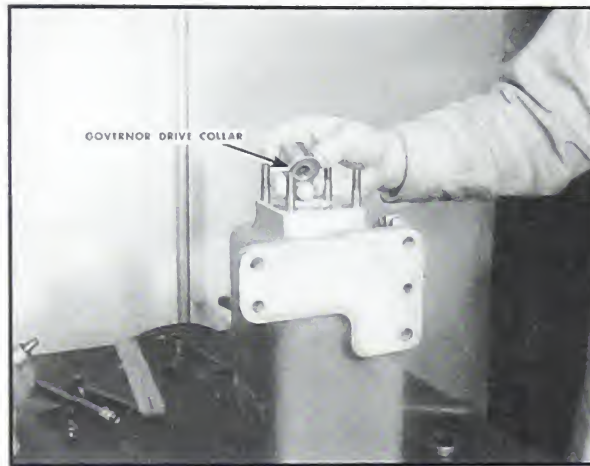

Fig. 5-375. Lift out governor drive collar
4. Lift out the governor drive collar. Fig. 5-375.